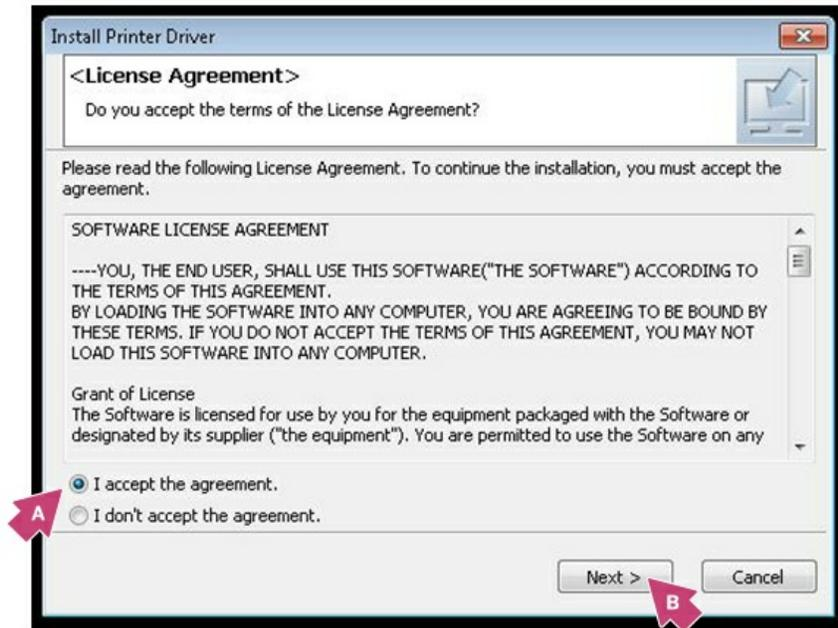

FIGURE 10
- Once the download has complete the Sawgrass SG400 printer driver will be installed. You will need to accept the Software License Agreement for installation to continue. If you agree with the terms select **I accept the agreement** and click **Next**. See Figure 10.